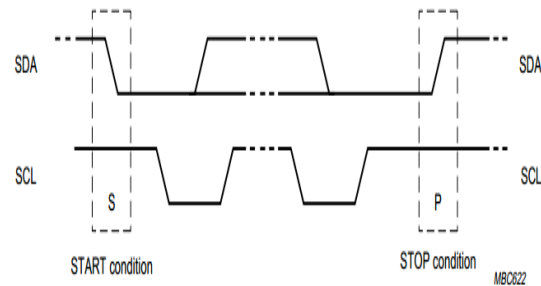

Fig.3 Connection of Standard-mode and Fast-mode devices to the I²C Bus
(S) and STOP (P) conditions (see Fig.3)